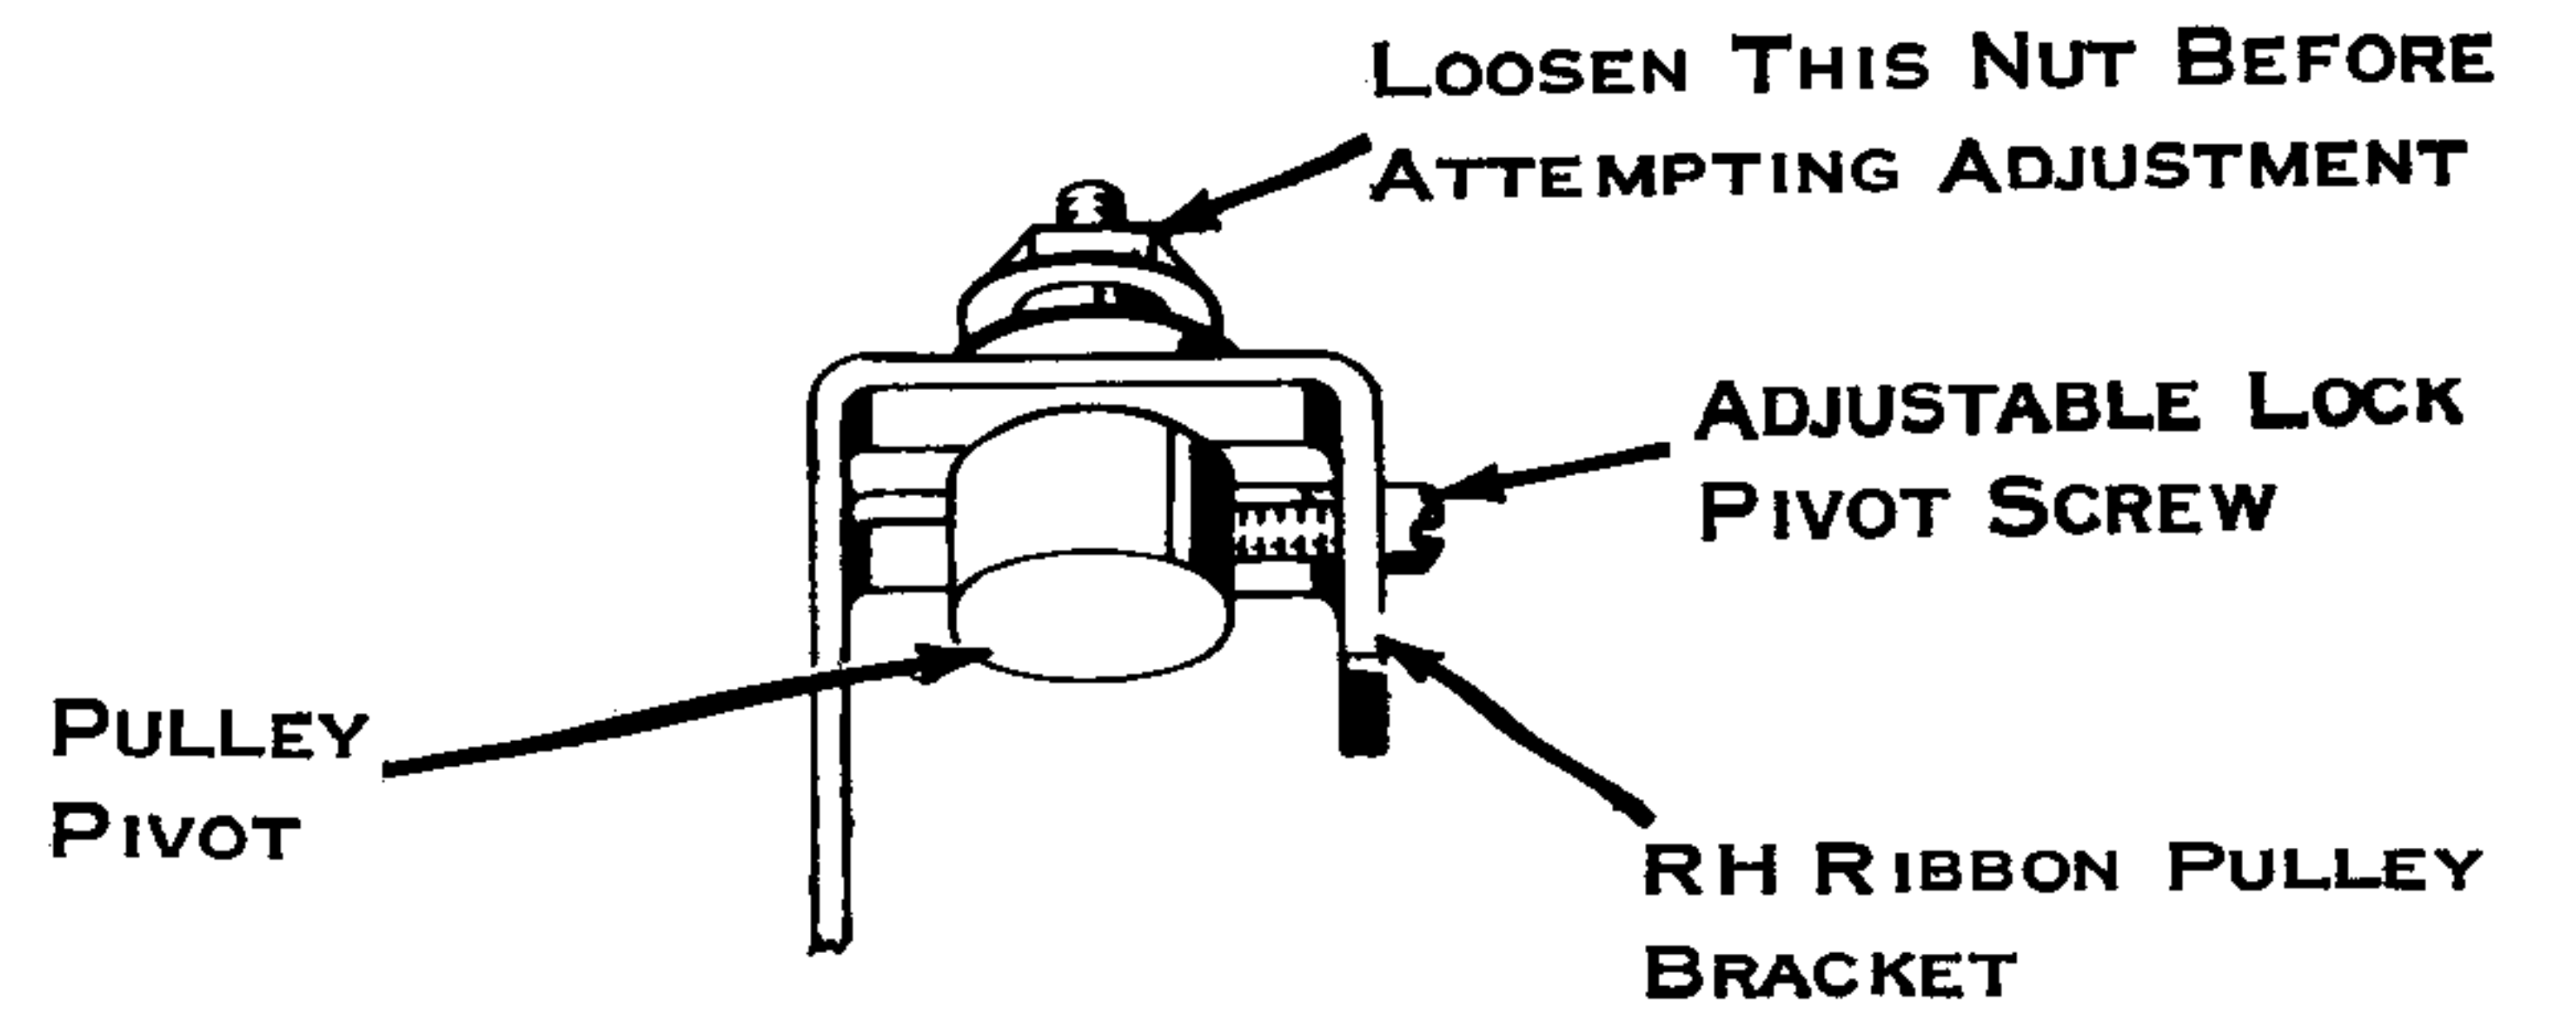

Figure 216. Right Hand Pulley
5. Right Hand Pulley (Fig. 216 & 217) - With the red shift armature energized, position the right hand pulley pivot to obtain .002" to .005" clearance between the stud and follower latch slot.